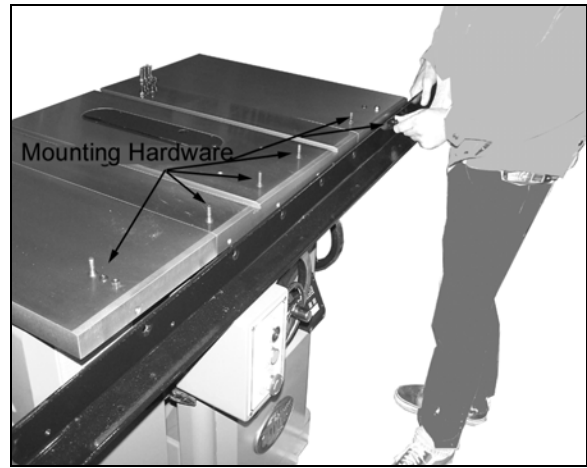

Figure 4
1. Rest the front guide support bracket on the switch box as shown in Figure 4 and secure into place using the chamfered bolts, nuts and washers provided in hardware packet 7. Note that the two outside holes require a nut and washer as well as a bolt while the four inside holes require the bolts only.